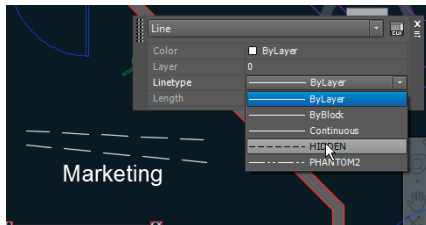

FIGURE 6.25 Changing a specific object property
5. Select the continuous line drawn in step 2, and change its Linetype property to Hidden (see Figure 6.25). Press Esc to deselect.